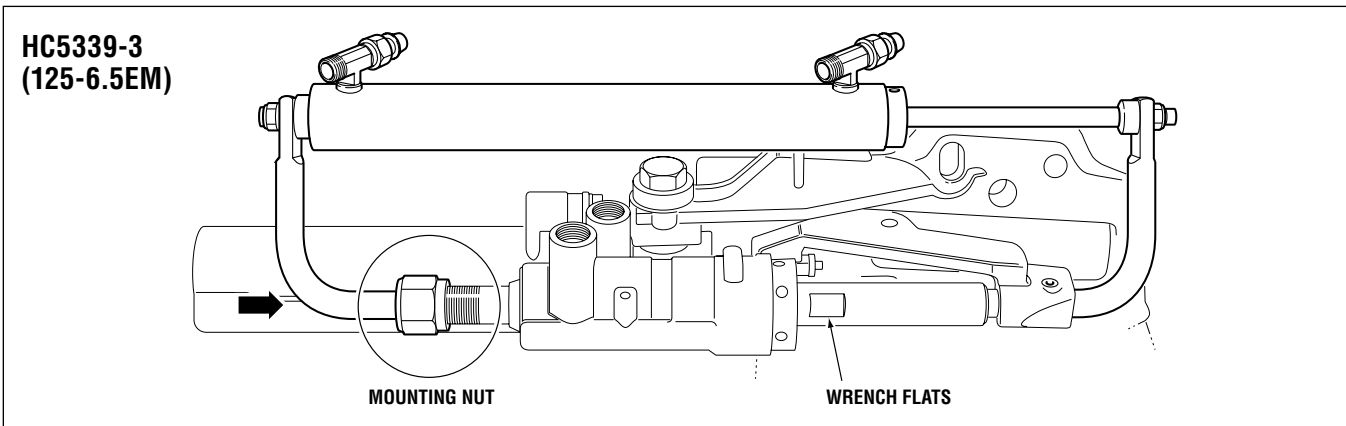

Figure 21.
4. Extend HC5339-3 cylinder as required and insert the short rod into the tilt tube as shown in figure 21.